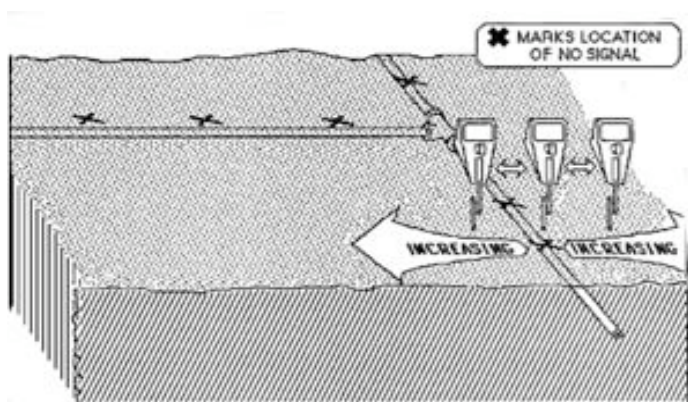

FIGURE 13 LOCATING A LINE BY “NULLS”
i) Put the detection head of the 5600-SI receiver into the vertical position as shown in (Figure 13). When tracing a line, the detection head will point at the line when a “null” (no signal) is received.